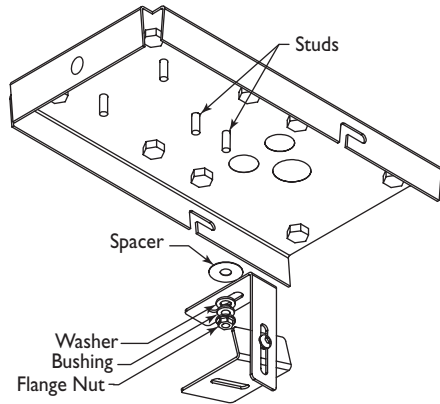

Figure 9 Securing the Mount System
2. Reattach the camera mounting system to the top panel using the 6-mm flange nut, nylon bushing,  $\frac{3}{16}$ -in washer, and nylon spacer. Use either stud provided, depending on the camera size and mounting configuration. See **Figures 9 and 10**.